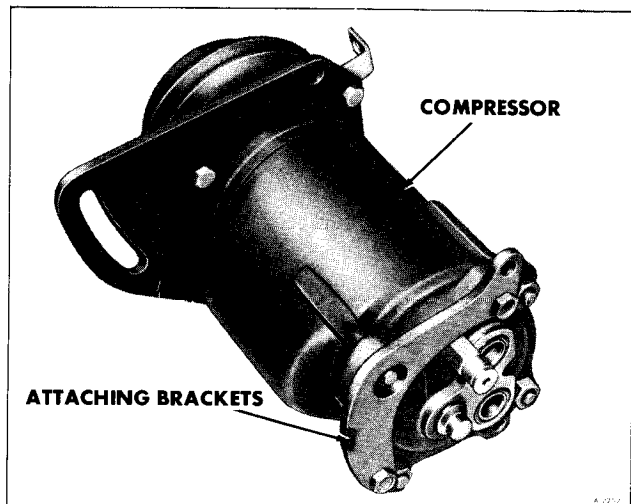

Figure 29 –Compressor Removed From Vehicle
8. Remove compressor and attaching brackets and shield by sliding rearward and dropping out bottom. Be sure compressor is removed with attaching brackets as shown in Figure 29.